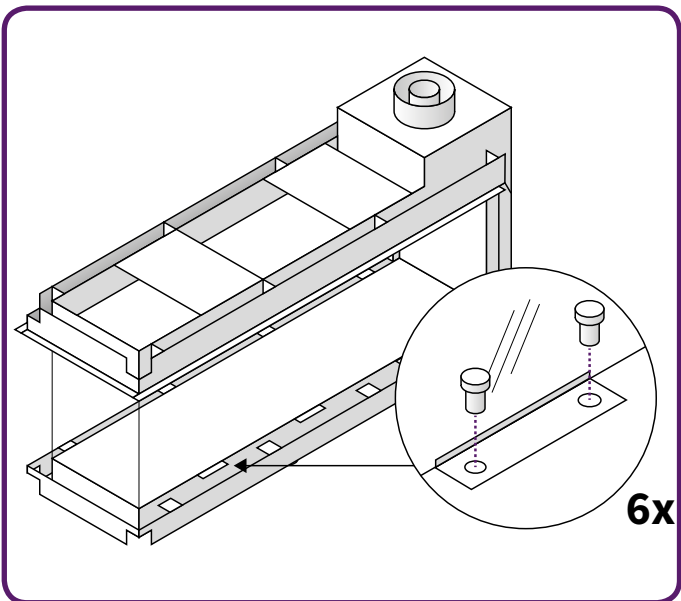

Figure 10.11 - Remove glass clamps
- Remove the glass clamps. (See **Figure 10.11**)